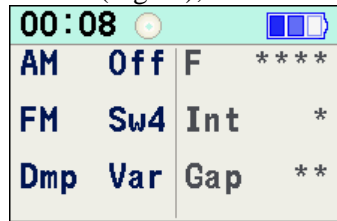

Fig.27
- ◆ Swing 1 combined modulation mode (**FM Sw1**). The mode is indicated by a low pitch beep. At the same time the **device forcibly sets the following parameters: Dmp, Int, Gap, F**. After you activate the **Sw1** mode, you can change the settings of the **Dmp** parameter. The settings that cannot be changed are marked with asterisk on the screen (Fig.27);